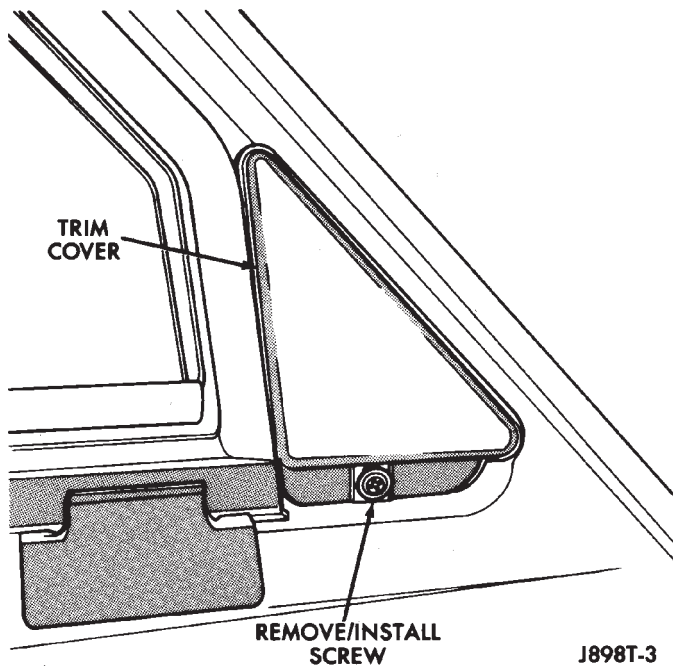

Fig. 5 Power Mirror Trim Cover
(8) Remove screw holding mirror trim cover (Fig. 5).